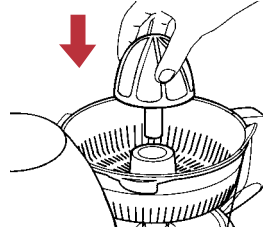

Fig 16
4. Insert the juicing cone into the centre of the citrus juicer bowl, the drive shaft should be inside the central column of the bowl, see Figure 16.